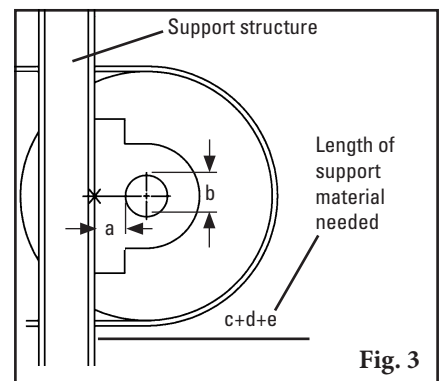

Fig. 3
- 5. Cut chute opening.** Using the adjusted intersecting mark (“+”) established in Step 4, layout and cut the required opening 125x150mm on the chute (Fig. 3). If access hole is required, see Step 7.
- Measure from the back of the pulley shaft to the support structure (Fig. 3).